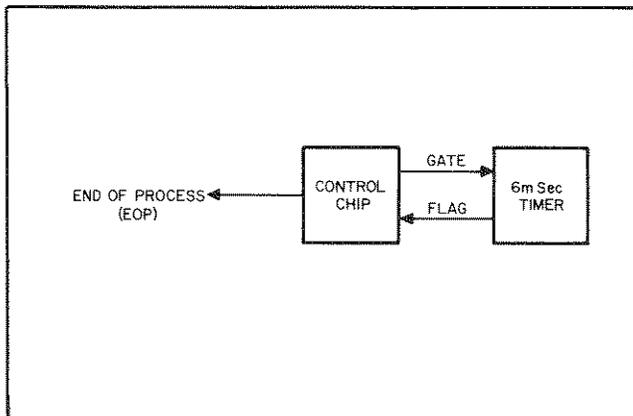

Figure 4-3. Relay Card Internal Gate/Flag Timer
**4-36 Internal Gate/Flag.** To explain an internal gate/flag operation, assume that data is sent to a Relay card. The relays require 6 msec to close. To ensure that data (in an OP or OS instruction) can not be sent to a Relay card at a rate faster than 6 msec, the relay card uses a 6 msec one-shot timer in the gate/flag circuit (see Figure 4-3). The gate signal starts the timer when the relay card is cycled, and 6 msec later when it completes, the flag is generated indicating that the data transfer process is complete (relays have settled).